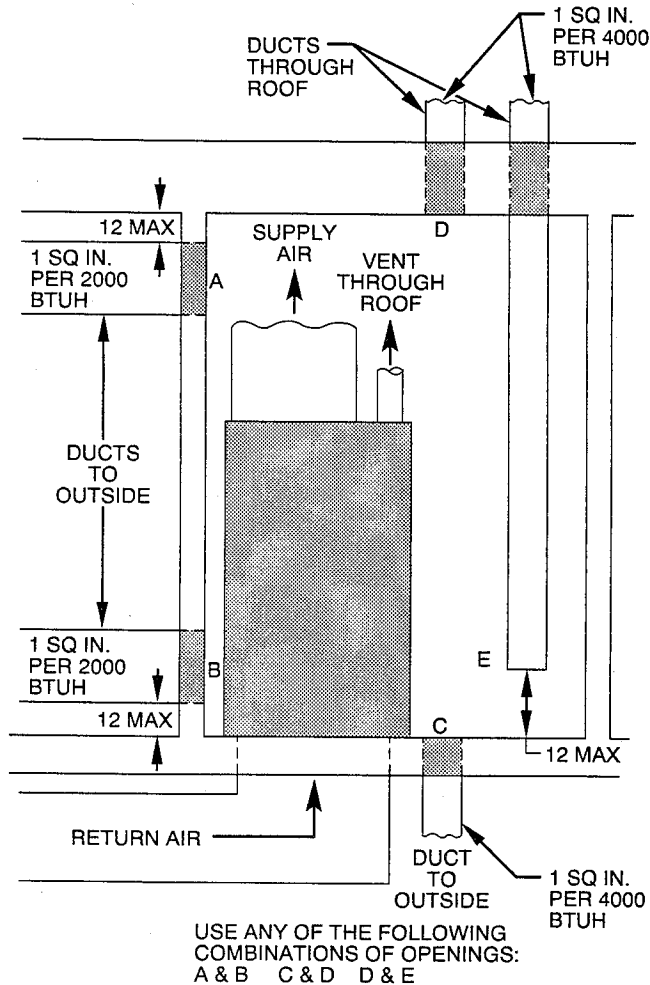

Fig. 3—Air For Combustion and Ventilation (Outside Air)
a. If combustion air is taken from outdoors through vertical ducts, the openings and ducts **MUST** have at least 1 square in. of free area per 4000 Btuh of the total input for all equipment within the confined space. (See Fig. 3.)
b. If combustion air is taken from the outdoors through horizontal ducts, the openings and ducts **MUST** have at least 1 square in. of free area per 2000 Btuh of the total input for all equipment within the confined space. (See Fig. 3.)
When ducts are used, they must be of the same cross-sectional area as the free area of the openings to which they connect. The minimum dimension of rectangular ducts must not be less than 3 in. (See Fig. 3.)